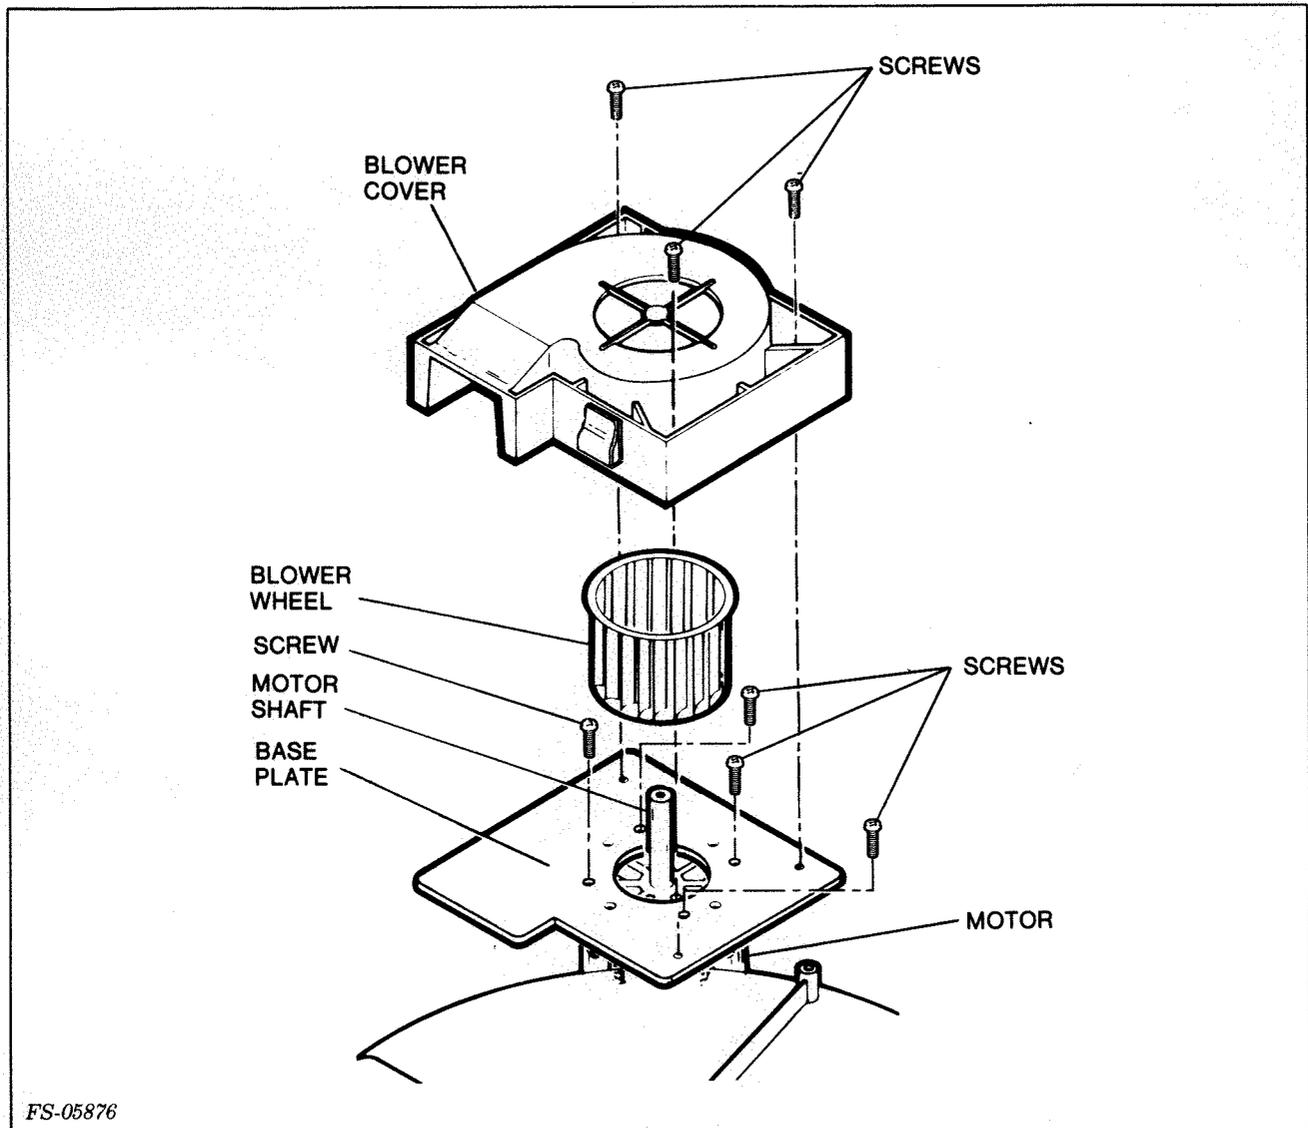

Figure 5-7. Blower Assembly (Exploded View)
5. Unscrew and remove the three screws that hold the blower cover to the base plate and remove the cover. Now pull the blower wheel off of the motor shaft (see Figure 5-7).
6. Unscrew the four screws that hold the base plate of the blower assembly to the motor, and remove the base plate (see Figure 5-7).
2. Unscrew and remove the three screws that hold the blower cover to the base plate and remove the cover. Now pull the blower wheel off of the motor shaft (see Figure 5-7).